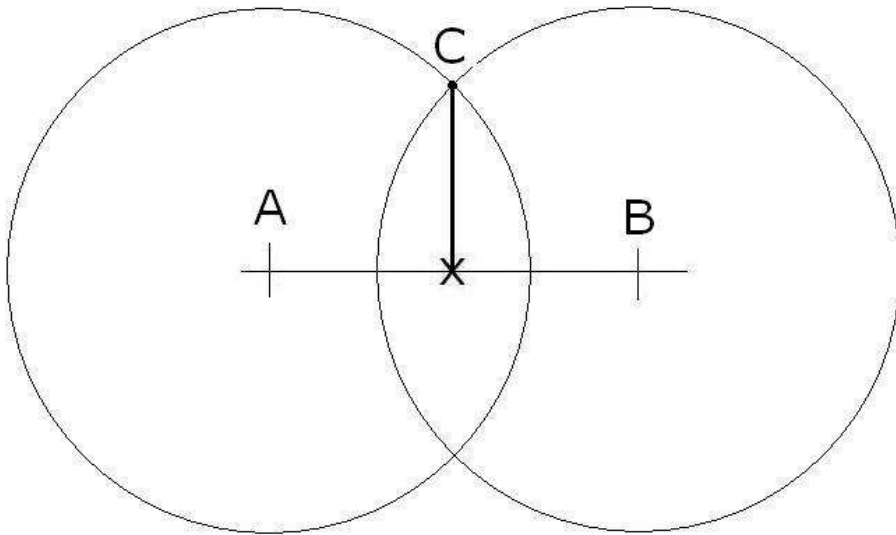

Figure 6: Perpendicular line drawn by connecting point C to the origin
- 5) Connect the point C to the origin to produce your perpendicular line (Figure 6).